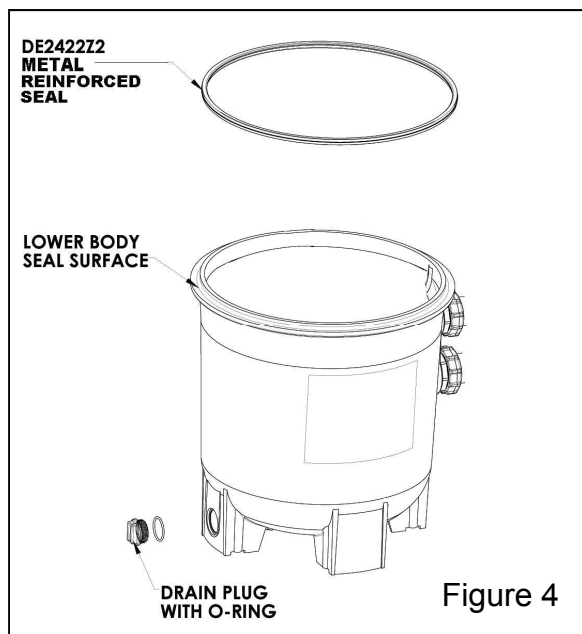

Figure 4
2. Close filter drain. Note: Filter plug requires an o-ring seal. (See Fig 4)
- Remove filter drain plug (FIG 4) and drain water from filter.
2. With a clean cloth wipe the lower filter body seal surface. (Fig 4) Do not use a solvent.
1. Place the metal reinforced seal on the lower filter body (Fig 4). Place the upper filter body on the Hayward DEX2422Z2 metal reinforced seal and lower filter body in a position which allows all operation and safety labels to be clearly visible and the upper body to be centered on the lower filter body. Press down firmly and evenly to set the upper filter body. (Fig 7)